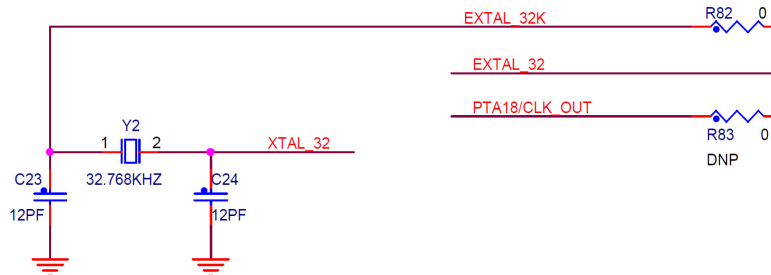

Figure 8. FRDM-KW24D512 board's 32.768 kHz optional oscillator circuit
- Optional 32.768 kHz Crystal Oscillator: Provision is also made for a secondary 32.768 kHz crystal Y2 (see Figure 8). This oscillator can be used for a low-power accurate time base.